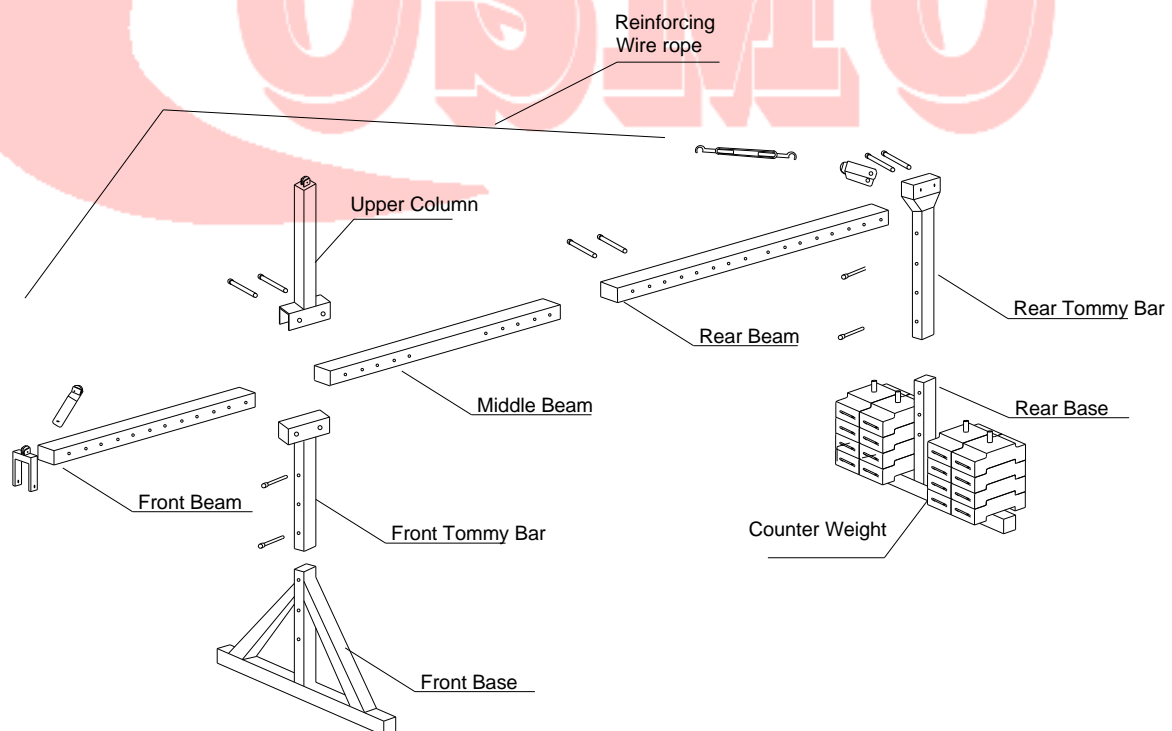

Figure 10 Installation of Suspension Mechanism
5.2.2 (See figure 10) Insert the tommy bars into the front base and rear base respectively. Adjust the height of the tommy bars and tighten the bolts to form the front base and rear base. (The height of which should be adjusted according to